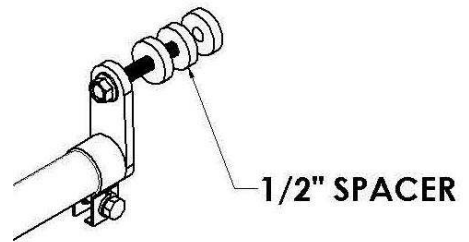

Figure 3
- C. Spacers are supplied to bring the steel swivel away from the frame in the event of any obstructions (Figure 3).